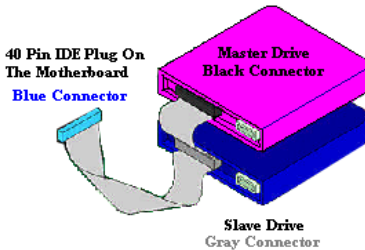

Figure 2-10. How to connect an ATA/66 Cable to the Motherboard
- Attach the BLACK connector to the mating plug on the master hard drive. Attach the GREY connector to the mating plug on the slave drive (secondary hard drive, CD ROM, or tape drive). Please refer figure 2-10.